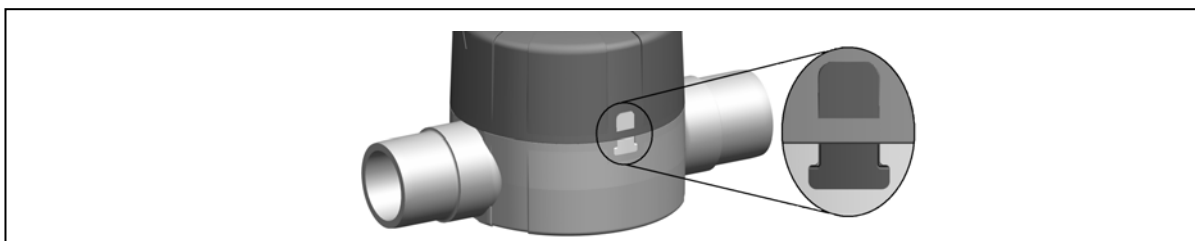

Fig. 26
- the half-round position indicator is align with the friction lock, see fig. 26